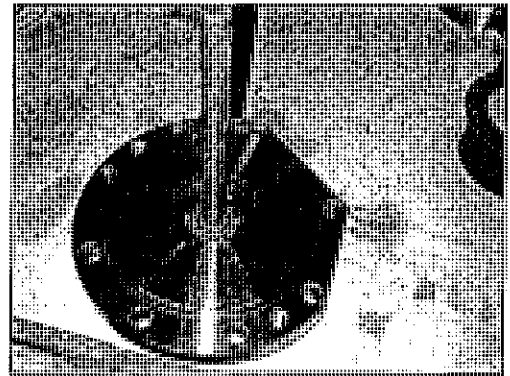

Fig. 3-43
- (26) Combine Cylinder Head (D31) (Fig. 3-43) with Ball Bearing (D33) and Spindle (D36). Fix Ball Bearing (D33) by Snap Ring (L01).